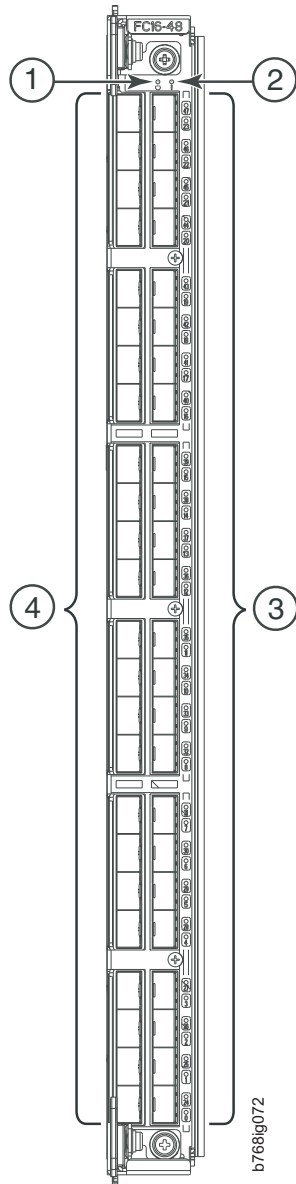

Figure 41. FC16-48 port blade
- Figure 41 on page 140 shows an FC16-48 port blade